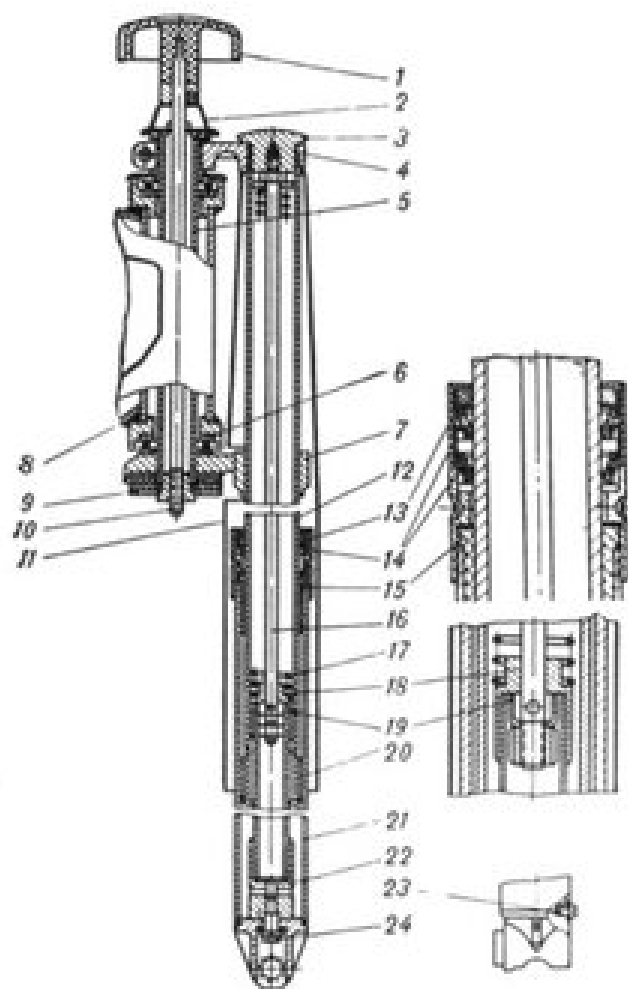

Fig. 41. Front fork:
2. Unscrew tie plug 3 (Fig. 41) using spanner 5, Set No. 3, loosen lock nuts, and unscrew the plug from the rod.